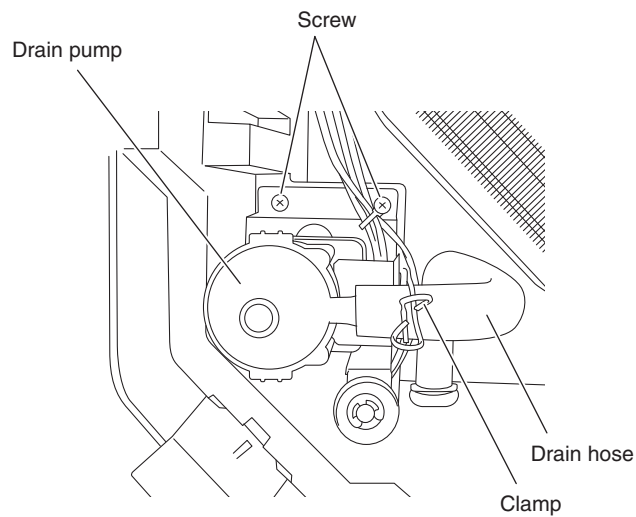

Fig.20
- (1) Remove the 2 screws (Fig. 20)
- (2) Loosen the clamp and disconnect the drain hose from the drain pump. (Fig. 20)
- (3) Remove the drain pump from the main body upper section. (Fig. 20)